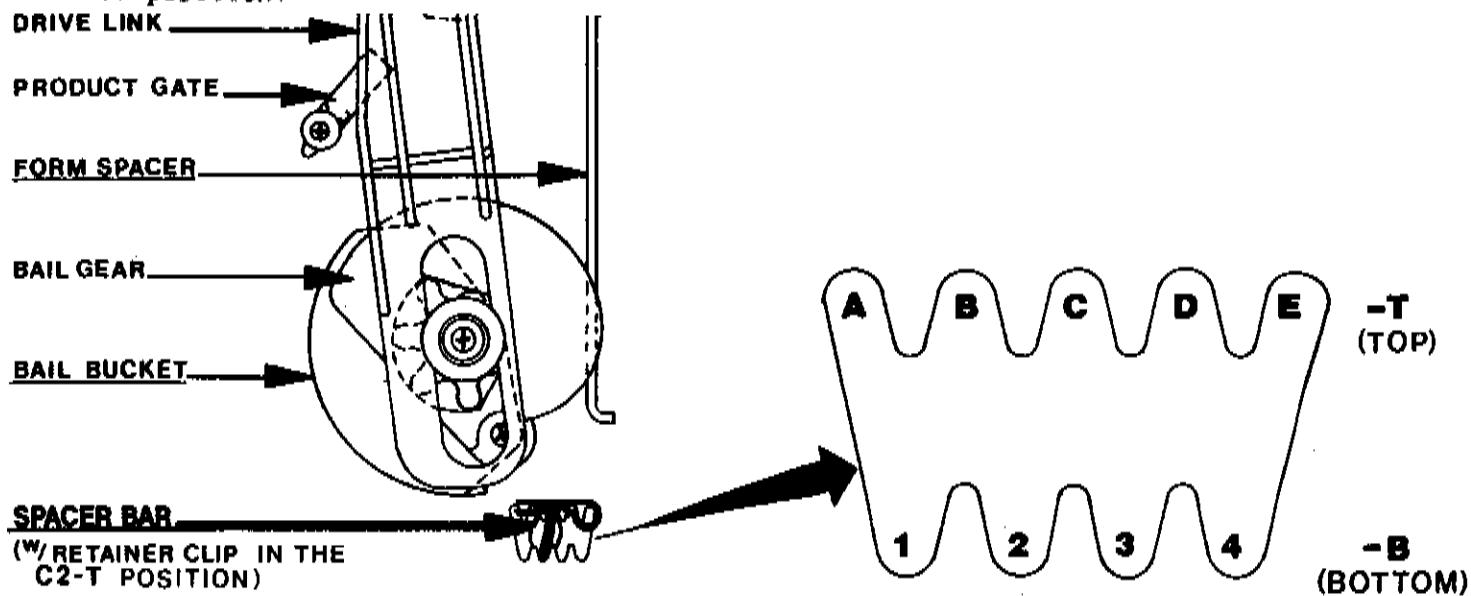

FIG. 29
B. To Re - Position Spacer Bar SEE FIGURE 29
NOTE: Bar will be positioned so that hole for retainer clip is in the top (-T) or bottom (-B) position. FIGURE 29 shows spacer bar with retainer clip in the top (-T) position.